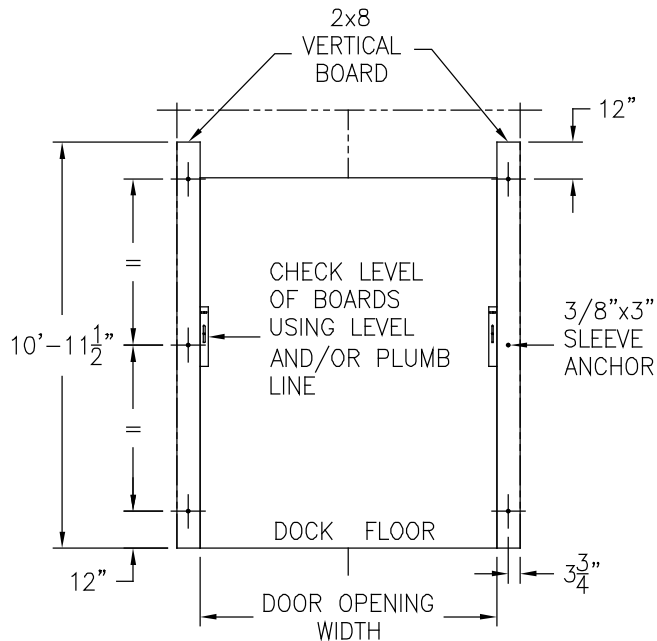

FIG. 3
c. Attach Vertical Board to wall (Fig 3).